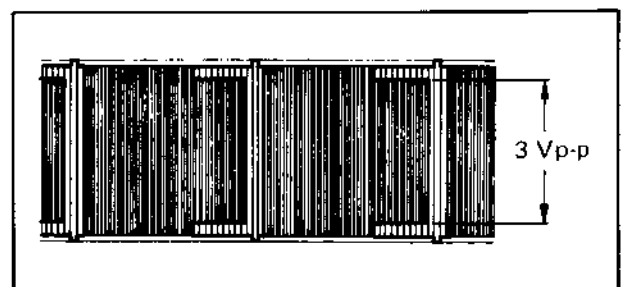

Fig. 5-23 FM record level
- Adjust R1 (FM REC LEVEL), so that the level of TP-1 is 3.0 Vp-p as shown in Fig. 5-23.